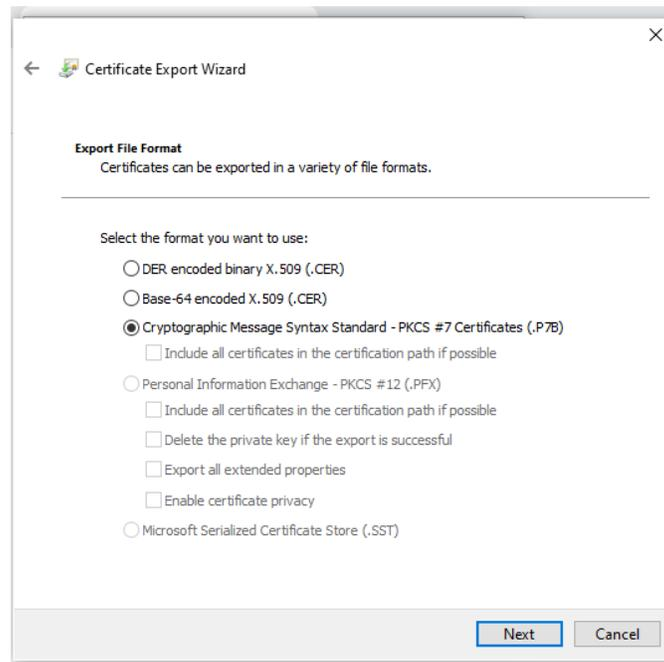

Figure 67: Select the P7B format to export certificate
- To export the certificate in the correct format, select **Cryptographic Message Syntax Standard – PCCS #7 Certificates (.P7B)** as shown in Figure 67.